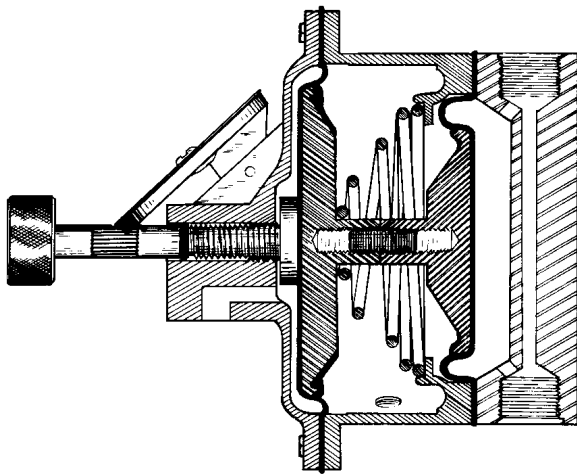

Figure 3
- Refer to Figure 3, Page 6, for the following steps.
- You may have to use a thin blade screwdriver several places to free the diaphragm (1) from the head and cylinder.
- Before installing the new diaphragm, coat the threads of the threaded stud (5) with an anti-seize lubricant to prevent sticking